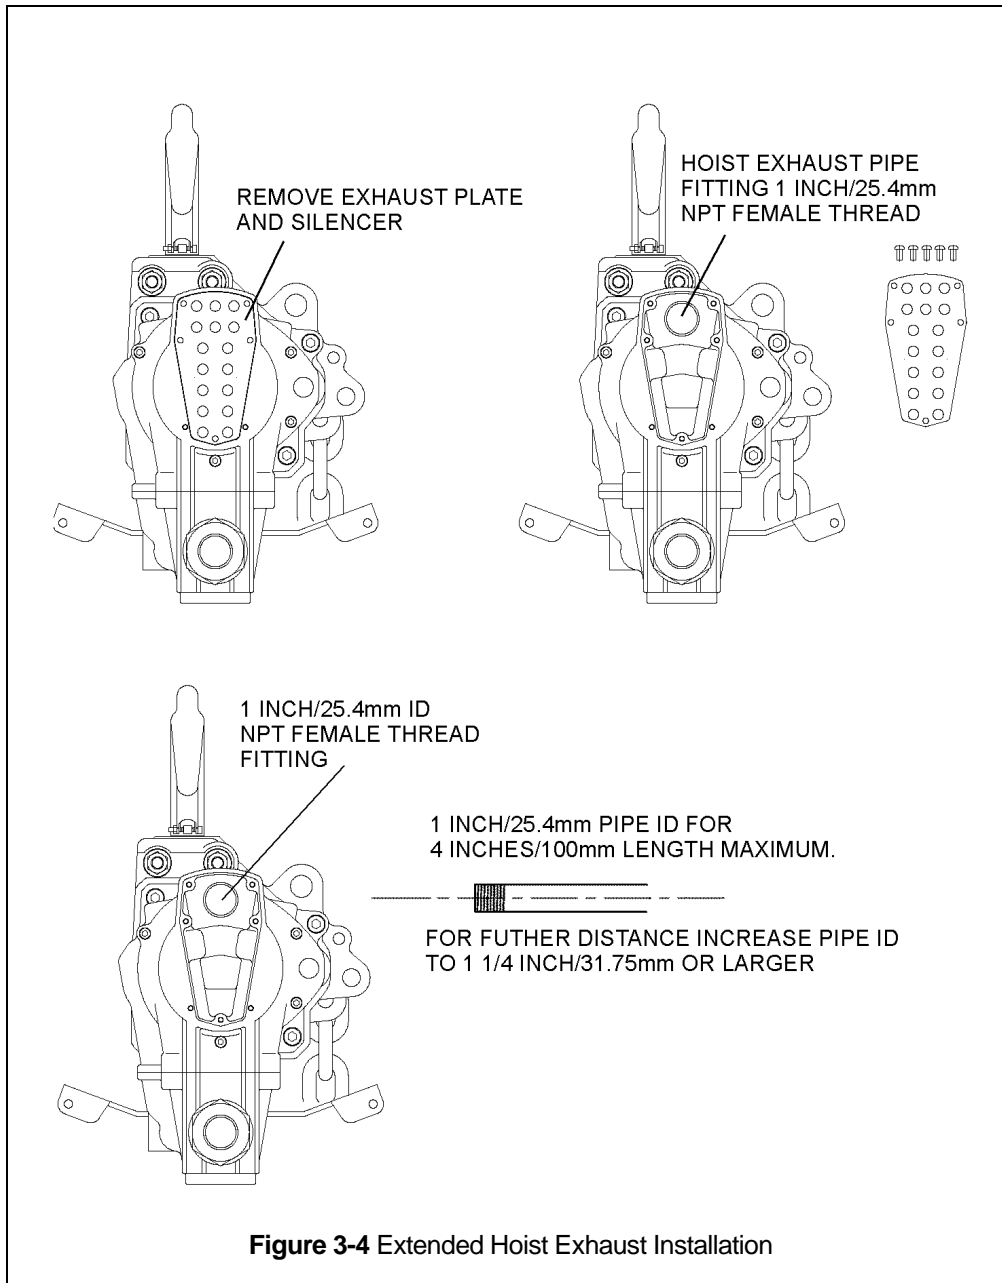

Figure 3-4 Extended Hoist Exhaust Installation
- 3.7.1 Some hoist applications require the hoist exhaust to be expelled outside the immediate environment. To accommodate this need it is possible to extend the hoist exhaust to another area. Figure 3-4 describes the method to extend the hoist exhaust.